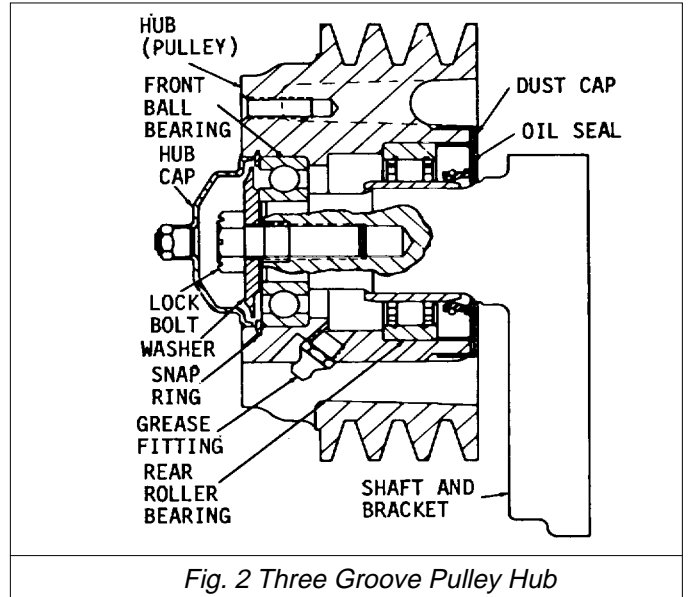

Fig. 2 Three Groove Pulley Hub
- (2) Loosen the fan hub adjusting bracket bolts and remove the drive belts. Then withdraw the bolts and washers and remove the hub and bracket assembly from the engine.
57.4 Disassemble Fan, Three Groove Pulley Hub and Bracket (Fig. 2)